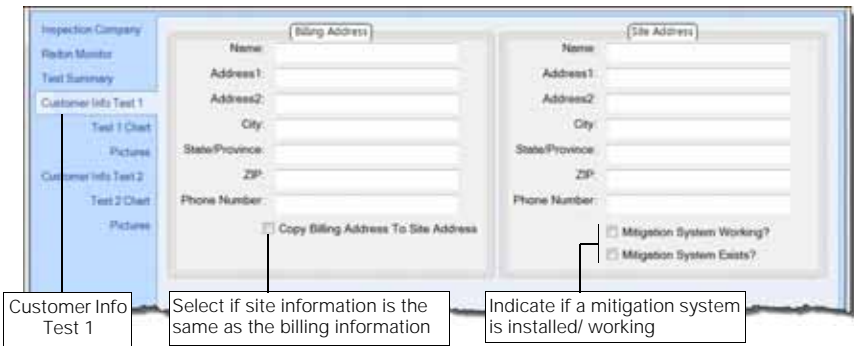

Figure 17. Entering Customer and Site Information
- 2 Two panels are displayed (Figure 17):